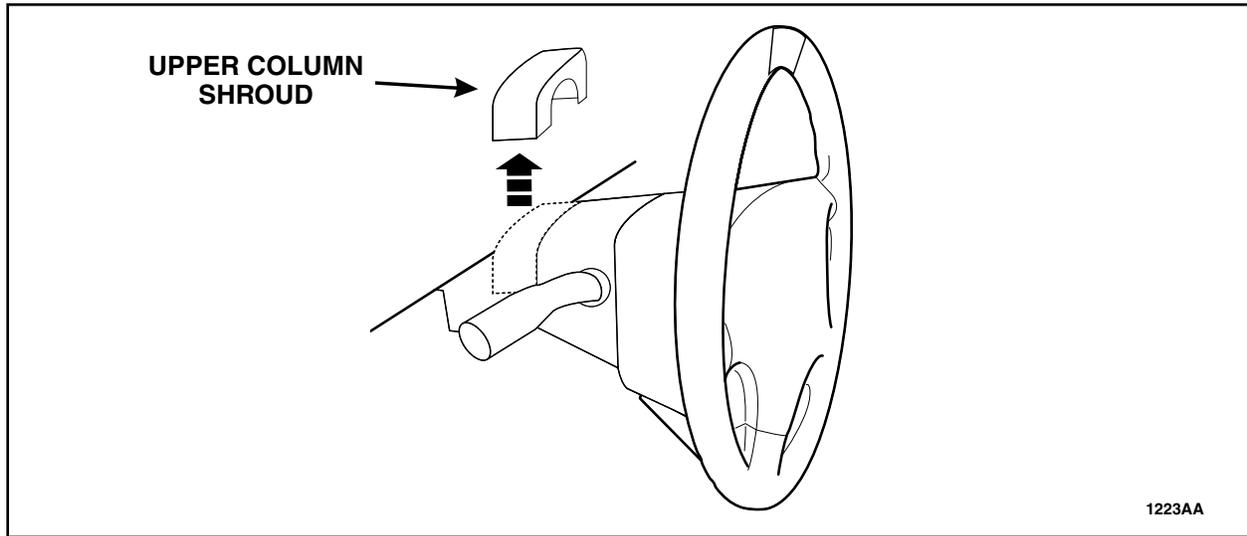

FIGURE 4
8. Pull up and remove the upper column shroud. See Figure 4.
38. Install the upper column shroud. See Figure 4.